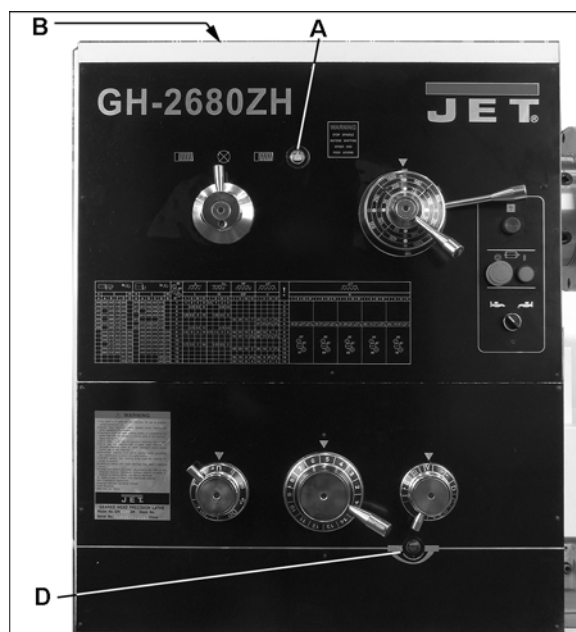
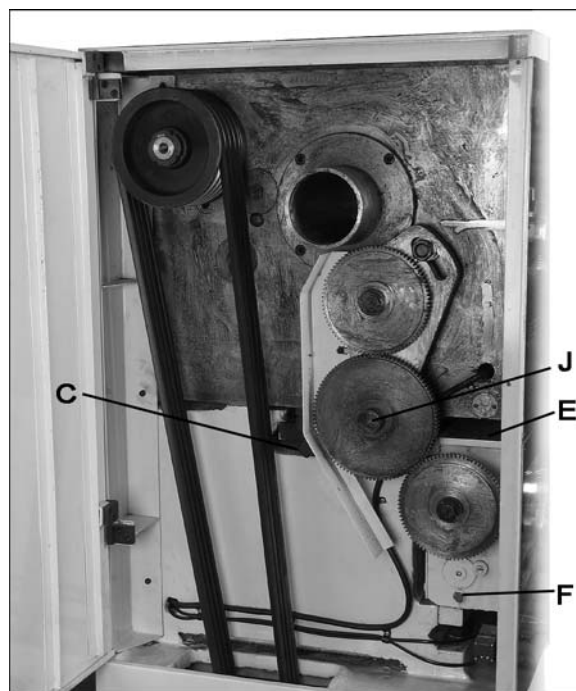

Figure 9 – Headstock lubrication
Figure 10 – Lubrication points
2. **Headstock** – Oil must be up to indicator mark in oil sight glass at the *rear* of the headstock. [NOTE: The sight glass on the *front* of the headstock (A, Figure 9) verifies operation of the oil pump, the one at *rear* of headstock (not shown) indicates oil level]. Top off with SAE 20W oil. Fill by removing the rubber mat and unscrewing the plug (B) on top of the headstock.
3. To drain the headstock, remove the nut on the drain pipe (C, figure 10). Drain oil completely and clean out all metal shavings, then rinse the casting case with kerosene.
5. **Change Gear Axle** – Periodically remove end plug (J, Figure 10) and press #2 lithium grease into the axle to lubricate the gear axle and sleeve. Coat all gears with non-slinging grease.
6. **Gearbox** – Oil must be up to indicator mark in oil sight glass (D, Figure 9). Top off with SAE 20W oil. To add oil to the gearbox, pour it into the pan (E, Figure 10). To drain, remove drain plug (F, Figure 10). Drain oil completely and refill after the first three months of operation. Then change oil in the gearbox every six months.
14. **Travel Setting Rod** – Periodically insert SAE 20W oil into the ball oiler on each end of the rod (Figure 9).